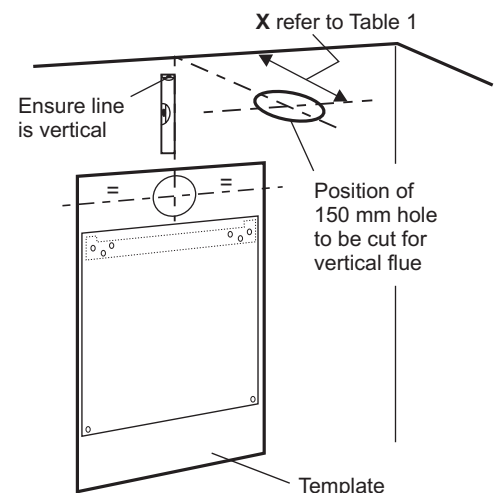

Fig. 1
- When the template is on the wall in the boiler position, continue the vertical line from the centre of the flue hole to the roof/ceiling position. Mark the centre position of the flue hole as shown in Fig. 1.